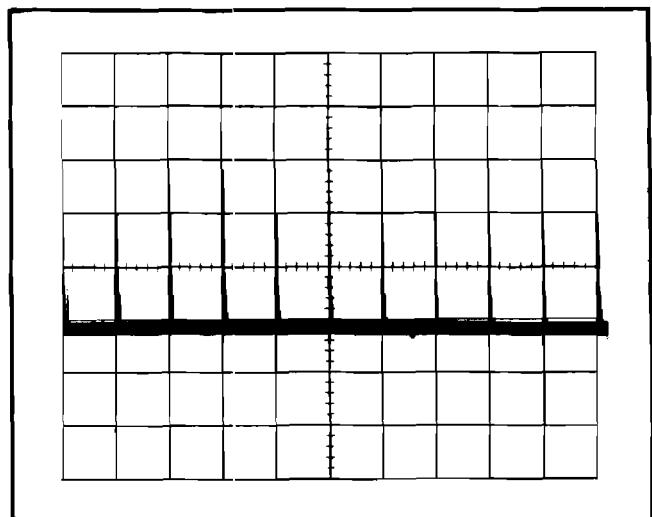

Fig. 5-2. Typical CRT display showing correct sweep calibration.
- c. CHECK—CRT display for one 1 ms marker for each division between the second and tenth vertical lines (see Fig. 5-2).